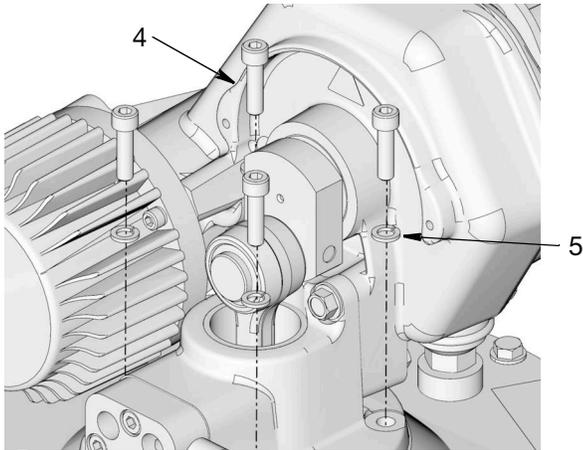

FIG. 6
6. Align holes in pump base with holes in drum cover (1) (FIG. 6). Securely fasten pump to drum cover using screws (4) and washers (5) removed in Step 2, page 3. Torque screws (4) to 28 +/- 3 ft-lbs for HP, HF 120# models.